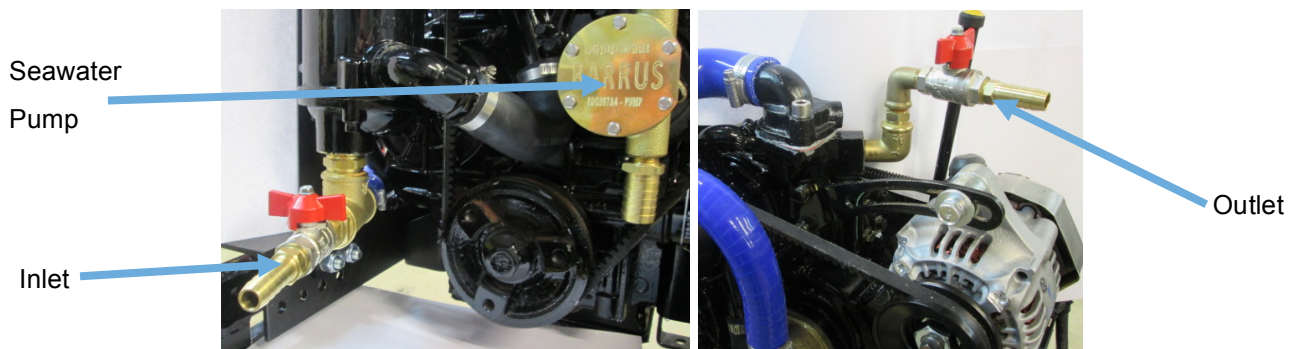

Figure 10: Position of Calorifiers on a Work Boat
- The calorifiers are positioned as per (**Figure 10**)